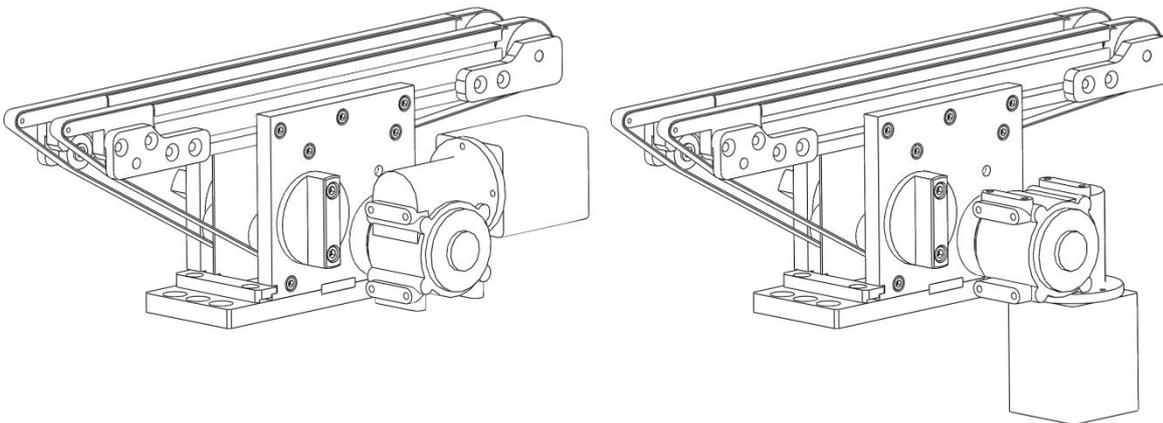

Fig. 8 Gear motor turned
- Push on the gear motor pointing downward (also see Fig. 8) and fasten bolts.